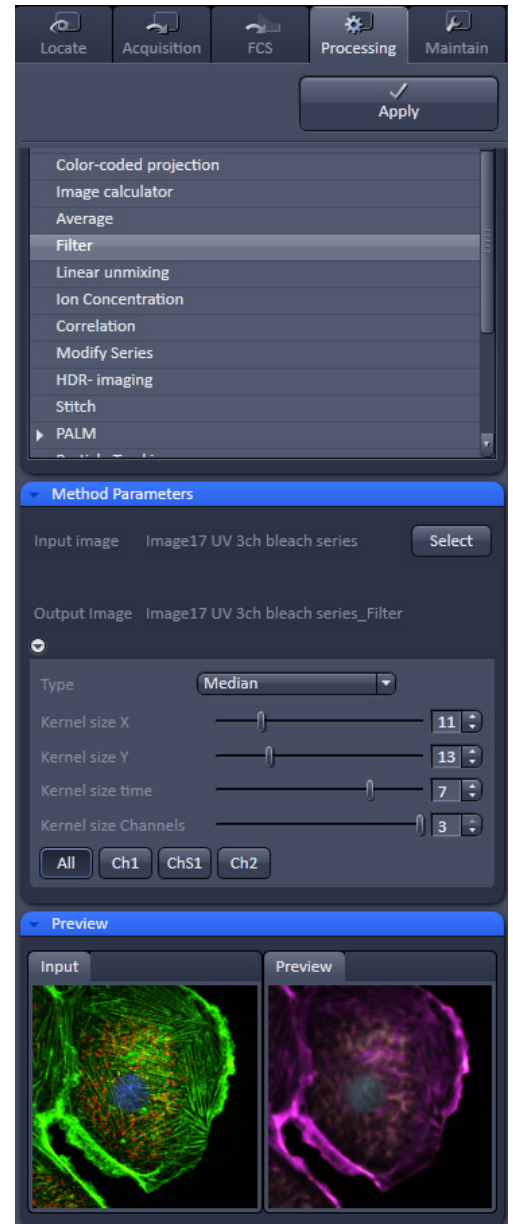

Fig. 403 Processing – Filter
- To open the **Filter** tool, select it from the list under the **Processing main tab** (Fig. 403).